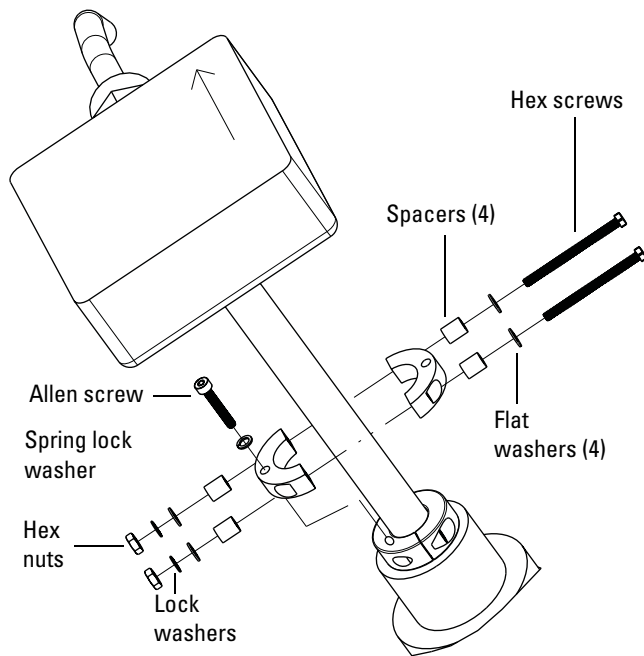

Figure 5: Secondary collar installation
4. Insert the two long screws, including washers, spacers, and nuts, as shown in Figure 5. Tighten the screws until the collar is snug against the shaft and cannot rotate.